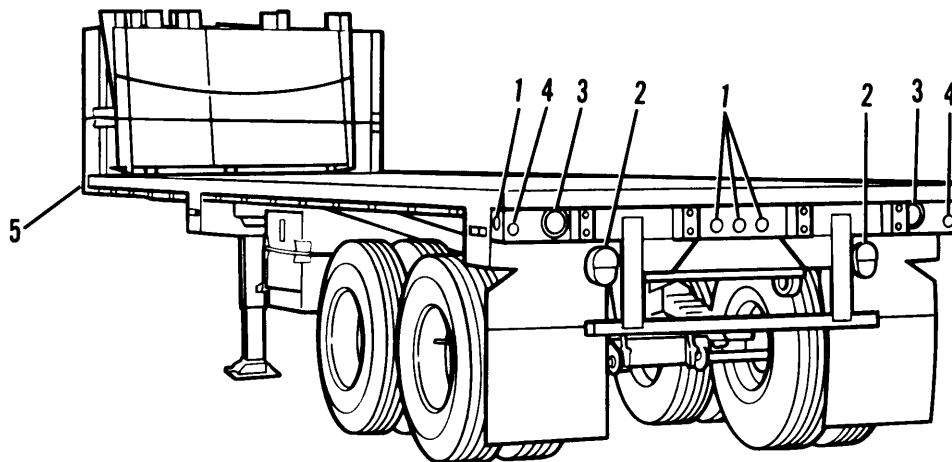

Figure 2-9. Service Lights and Reflectors (M871A1)
- Five red clearance lights (1, fig. 2-9) on rear
- Two composite lights (2) on rear
- Two stop, turn and taillights (3) on rear
- Two red reflectors (4) on rear
- Four amber clearance lights (5) on front/side corners